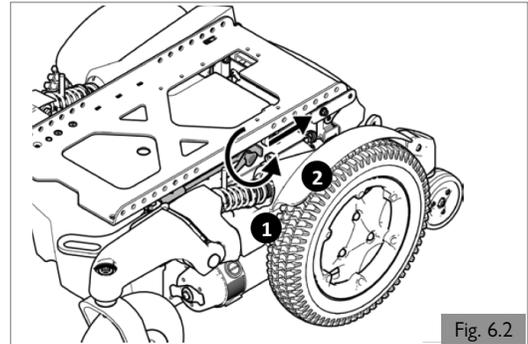

Fig. 6.2
1. Release the two handle screws under the mid of the front of the seat frame, that connect the seat frame with the seat module interface (step 1) and release the lever (step 2) (Fig.6.2).